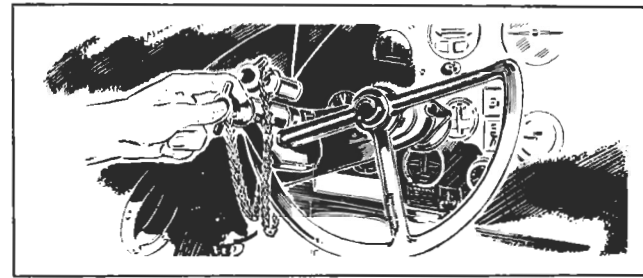

Figure 63—Locking Ailerons
*a.* **LOCKING AILERONS.**—Rotate the pilot's control wheel 20 degrees counterclockwise, place the yoke lock over the left-hand spoke, and press it firmly into the base plate. Remove the elevator key after turning it 90 degrees in the key hole of the yoke lock. (See figure 63.)